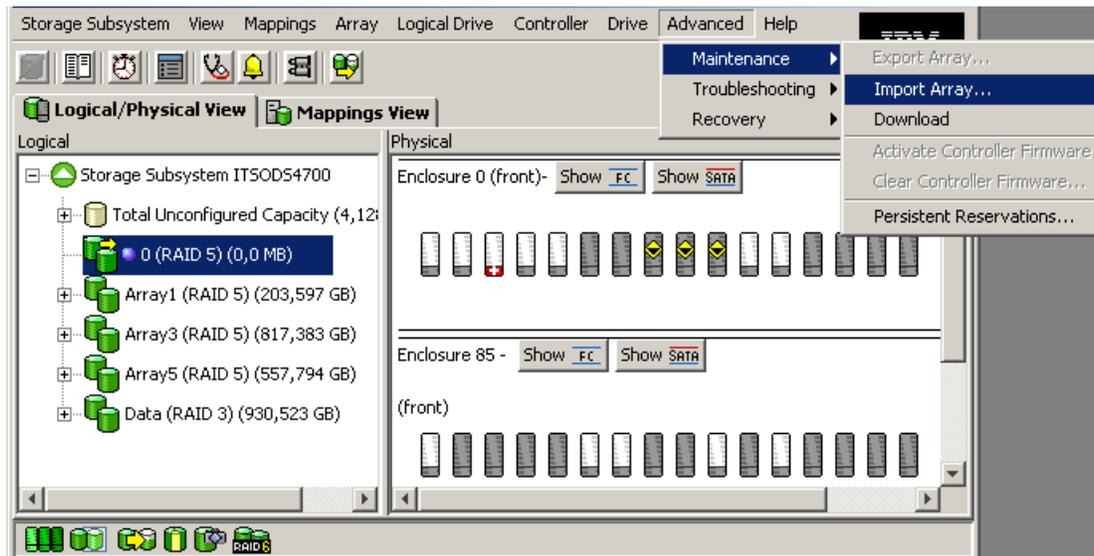

Figure 12-40 Import Array option
1. Use the import array option to import an array that you have previously exported. From the Subsystem Management window in the logical view, select the array, then select **Advanced** → **Maintenance** → **Import array**, as shown in Figure 12-40.